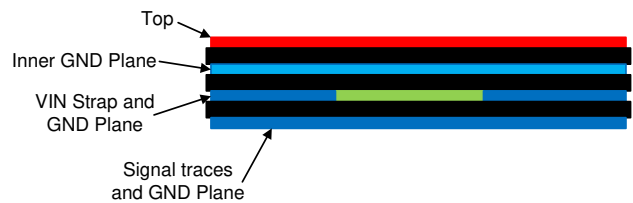

Figure 10-3. Example Layout for VQFN Package
The PCB layout of any DC/DC converter is critical to the optimal performance of the design. Bad PCB layout can disrupt the operation of an otherwise good schematic design. Even if the converter regulates correctly, bad PCB layout can mean the difference between a robust design and one that cannot be mass produced. Furthermore, the EMI performance of the regulator is dependent on the PCB layout, to a great extent. In a buck converter, the most critical PCB feature is the loop formed by the input capacitor or input capacitors, and power ground, as shown in Figure 10-1. This loop carries large transient currents that can cause large transient voltages when reacting with the trace inductance. These unwanted transient voltages will disrupt the proper operation of the converter. Because of this, the traces in this loop must be wide and short, and the loop area as small as possible to reduce the parasitic inductance. Figure 10-2 and Figure 10-3 show recommended layouts for the critical components of the LMR33630.
1. **Place the input capacitor or capacitors as close as possible to the VIN and GND terminals.** VIN and GND pins are adjacent, simplifying the input capacitor placement. With the VQFN package there are two VIN/PGND pairs on either side of the package. This provides for a symmetrical layout and helps minimize switching noise and EMI generation. A wide VIN plane must be used on a lower layer to connect both of the VIN pairs together to the input supply; see Figure 10-3.